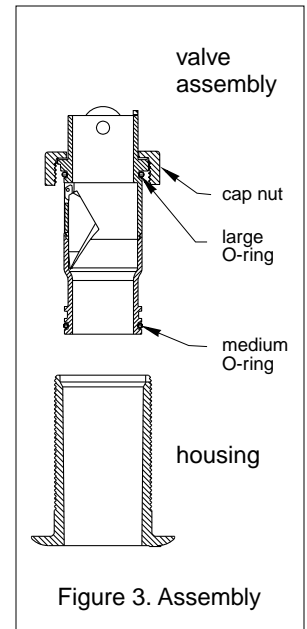

Figure 3. Assembly
5. After the sealant cures, inspect the O-rings on the valve assembly (replace if necessary) and lubricate them with the silicone lubricant supplied (see Figure 3).